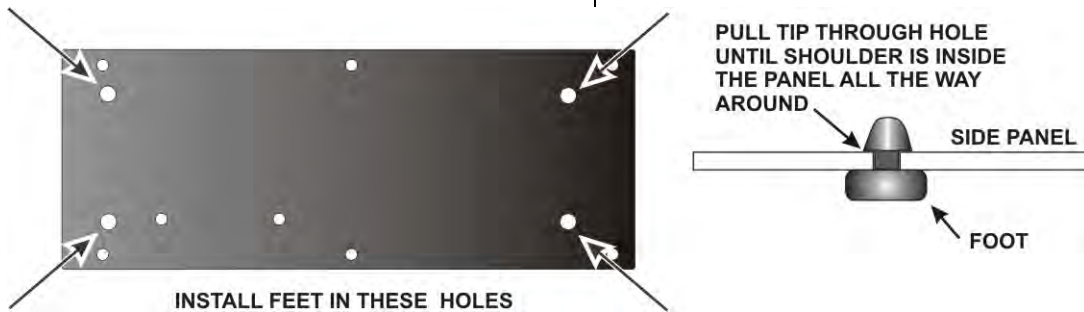

Figure 21. Installing Side Panel Feet.
- Locate the two side panels. They are approximately 4" (10 cm) by 9-7/8" (25 cm) in size. Both panels have six counter-sunk screw holes near the edges. Note that the countersunk holes are farther from one end than the other. This is important. You will need to orient the panels correctly as you install them. The side panels are different as well. In addition to the six counter-sunk screw holes, the left side panel has two holes near the centerline for attaching the handle and three larger counter-sunk holes near the top edge. The left side panel with the handle attached is shown in Figure 16. The right side panel has six additional holes; four for mounting the side feet and two for attaching other parts inside the K3 (see Figure 21). Set the right side panel aside for now.
Install the four rubber side feet in the holes in the right side panel as shown in Figure 21. Two suggested procedures for doing this are as follows: